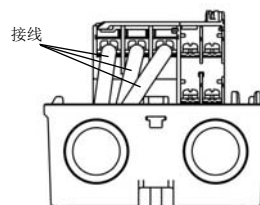

图 6
- The cover of FJ-B25WP may become difficult to be closed. If the load side wiring is moved a little more to the left, the cover can be closed easily. (Fig.6)
- (1) 热过载继电器脱扣时, 在去除过载等异常原因之后, 请打开盖子, 按下热过载继电器的复位棒。
- (2) 盖子上紧固螺钉的推荐力矩, FJ-B09WP~B25WP: $0.8\sim 1.2$ [N·m], FJ-B32WP: $2\sim 2.5$ [N·m]。
- (3) FJ-B25WP 可能盖子不易盖上, 接线时将负载侧的连接线向左靠, 这样盖子就容易盖上。(图 6)
- (4) FJ-B32WP 接地螺钉的推荐力矩为 $2\sim 2.5$ [N·m]。